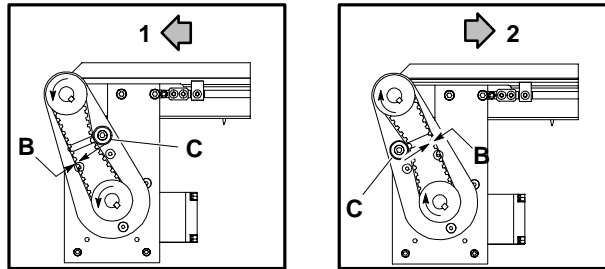

Figure 2
In addition, the conveyor belt can be driven in either one of two directions (1 or 2, Figure 2). Arrows show belt travel direction.
3. Attach back guard plate (6) to the mounting plate using two M6-1.0 x 18 mm flat head cap screws (20).
4. Assemble drive and driven pulleys (10 or 11) and timing belt (14). Place a square key (23) into the keyway of the outboard shaft assembly (1) and a square key (24) in the keyway of the gearmotor. Install pulleys so that timing belt is centered on the belt tensioning roller assembly pulleys are in line with each other. Tighten the pulley set screws or Taper Lock® bushing screws (13), which fasten pulleys to the shafts. Determine which direction the conveyor belt is traveling and position the tensioning roller assembly (C) (Figure 2) accordingly.
5. Adjust timing belt tension by loosening the M8 x 40 mm socket head cap screw (19) and sliding the belt tensioning roller assembly (C) against the belt. Tension should be measured at mid-point (B) on the tension side of the timing belt. As a starting point for the tensioning process, there should be 1/8" (3 mm) deflection with 1 lb (500 g or 4.3 N) of force.